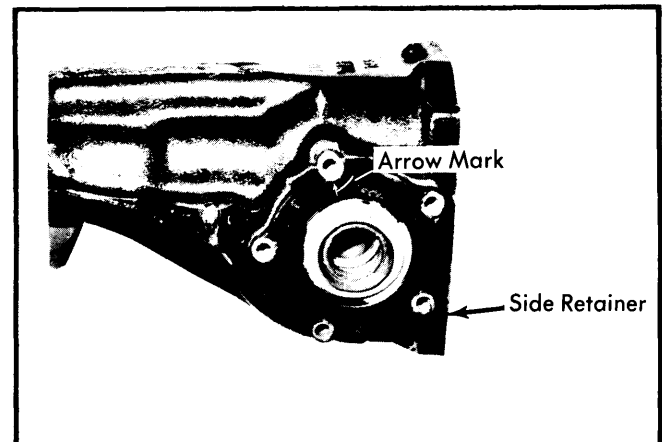

Fig. 11 Aligning Side Retainer
2) Install differential case assembly into differential carrier in reverse order of disassembly. Fit selected shims and "O" ring on the side retainer and install retainers in carrier with arrow pointing as shown in Fig. 11.